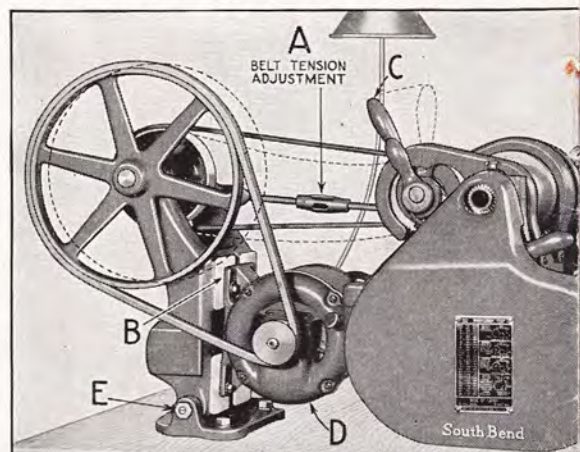

Fig. 2. End View of "Workshop" Lathe with Adjustable Horizontal Motor Drive Countershaft
The Adjustable Horizontal Motor Drive, shown in Fig. 2, is practical, convenient and efficient. The countershaft has belt tension adjustment (A and B) for both the cone pulley belt and motor belt. A quick release (C) for cone pulley belt tension permits easy shifting of the belt for changing spindle speeds.